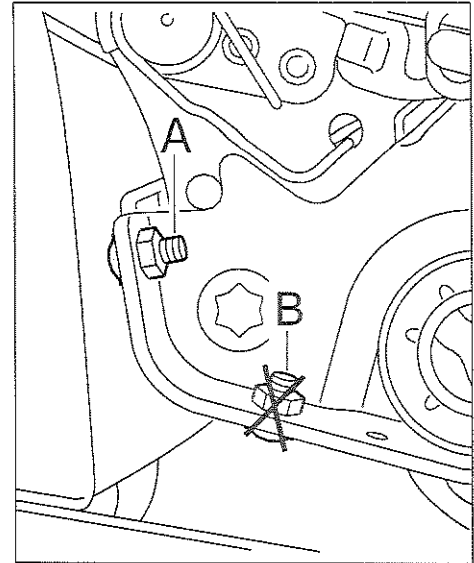

Figure 8
- 4 Unscrew screws and nuts \Rightarrow Figure 8 -A- on both sides of the transverse plate connection.